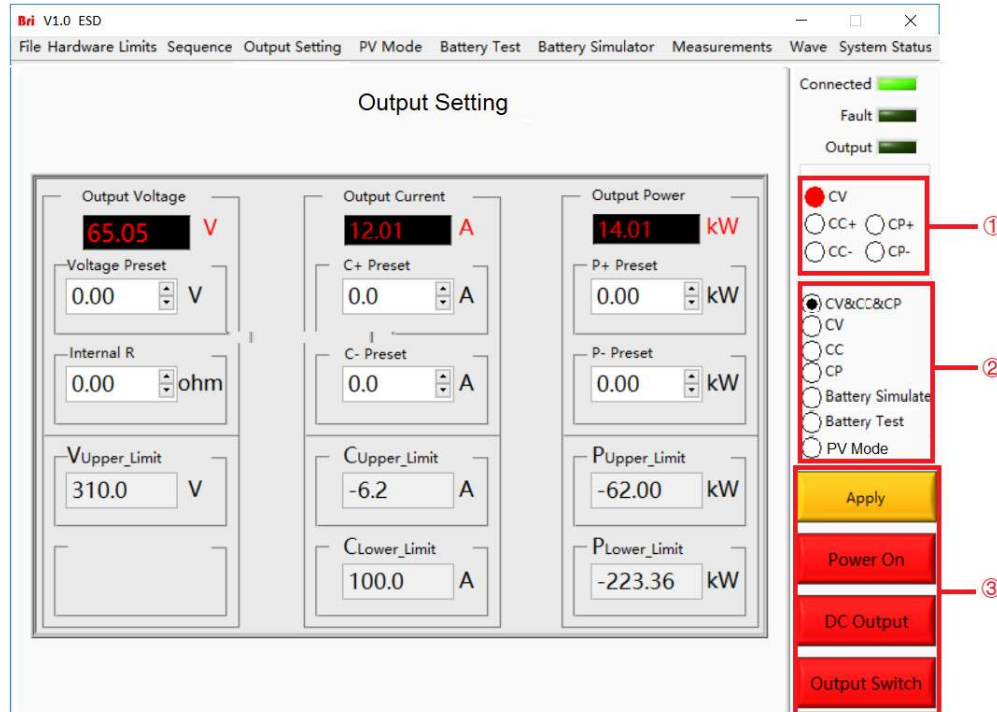

Figure 5-2 Operation Mode and input/output control
On the right side of the panel the user can select the operating mode of the power supply according to the test requirements (Figure 5-2②), and the software will automatically display the current operating status (Figure 5-2①).
In the output setting panel and sequence panel, there are some important controls to control the input/output of the power supply in the lower right part (Figure 5-2③). Click "Apply" → "Power On" → "DC Output" → "Output Switch", the power supply starts to work. Click "Output Switch" → "DC Output" → "Power On", the power supply stops working.